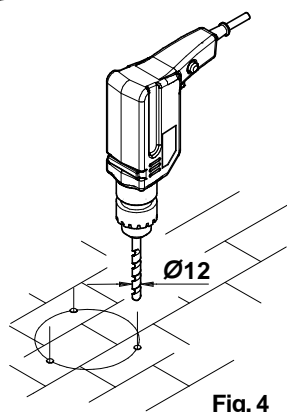
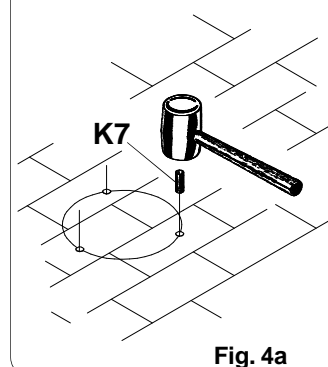
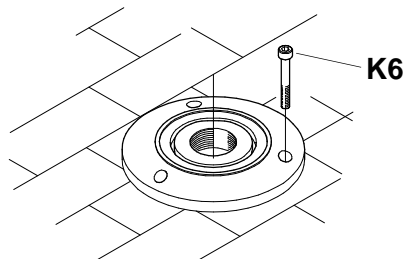

Fig. 4
Fig. 4a
Fig. 4b
- After completing the tracing operation, drill with a $\varnothing 12$ mm drill, (fig. 4). Insert the **K7** brass small block, (fig. 4a). Place the **K1** flange and anchor by means of 3 **K6** screws as shown in fig. 4b